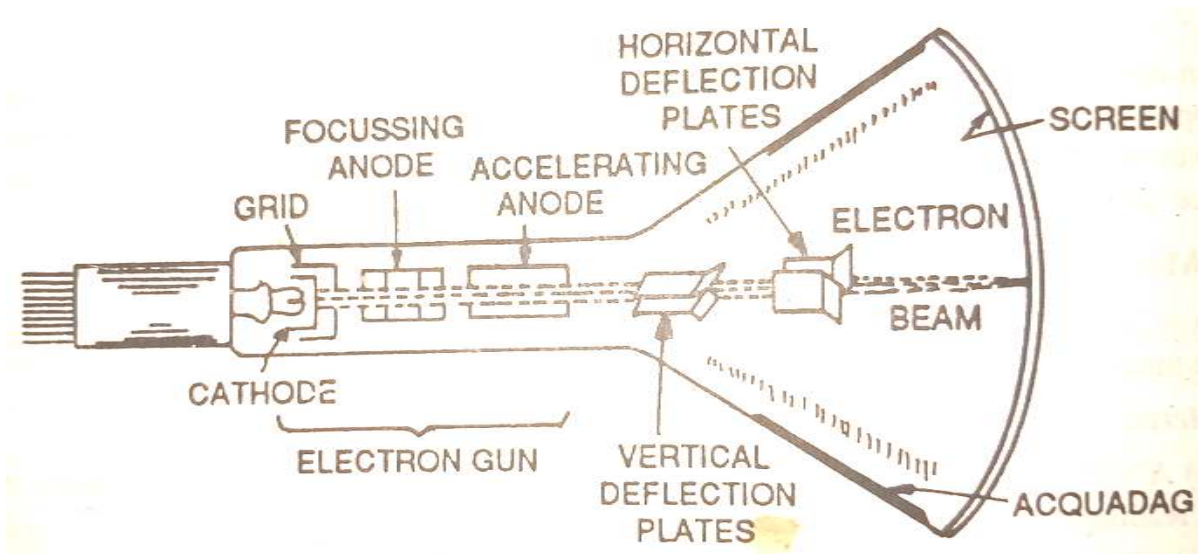

Fig. 1. Part-wise diagram of cathode ray tube (CRT)
Cathode ray tube: A cathode ray tube (commonly abbreviated as CRT) is the heart of the oscilloscope. It is a vacuum tube of special geometrical shape and converts an *electrical signal into visual one*. A CRT makes available plenty of electrons. These electrons are accelerated to high velocity and are brought to focus on a fluorescent screen. The electron beam produces a spot of light wherever it strikes. The electron beam is deflected on its journey in response to the electrical signal under study. The result is that electrical signal waveform is displayed visually. Fig. 1 shows the various parts of CRT.
- iii. **Deflection plate assembly:** The deflection of the beam is accomplished by two sets of deflecting plates placed within the tube beyond the accelerating anode as shown in Fig. 1. One set is the **vertical deflection plates** and the other set is the **horizontal deflection plates**.